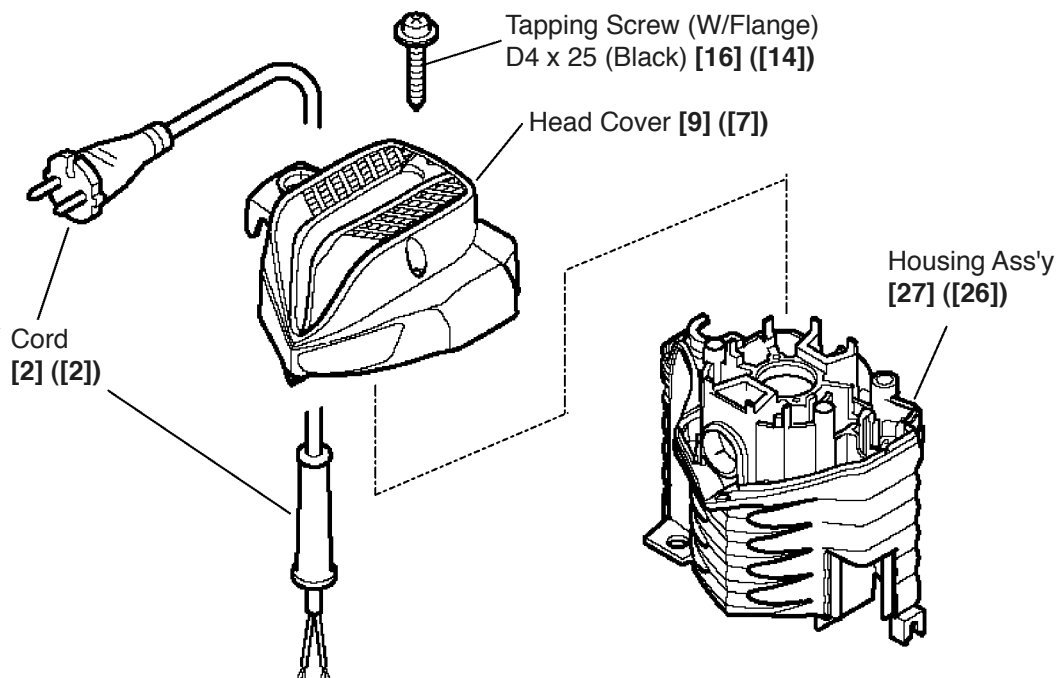

Fig. 4
(3) Removal of the Head Cover [9] ([7]) (Fig. 4)